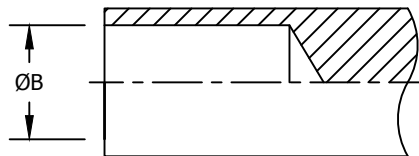

FIGURE 3 - PUNCH (DOLLY, MANDREL)
3. INSERT NUT SHANK SQUARELY IN HOLE WHILE SUPPORTING THE STRUCTURE. PLACE THE PUNCH (SEE FIGURE 3) ON THE NUT CROWN AND USE A LIGHT HAMMER BLOW OR SMALL PRESS TO FORCE THE NUT INTO THE STRUCTURE. THE NUT BASE MUST BE FULLY AND SQUARELY SEATED AGAINST THE STRUCTURE.